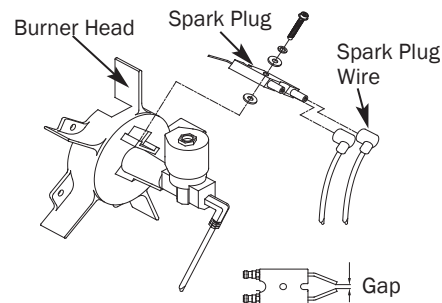

Figure 17 - Spark Plug
- Remove spark plug wire from spark plug (See Figure 17).